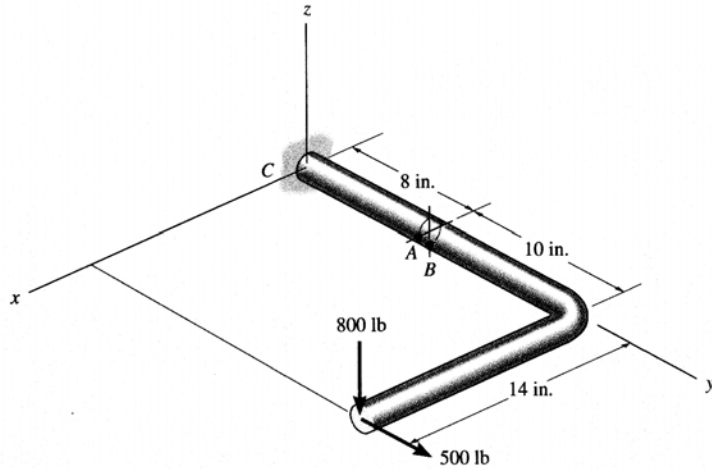

Figure 1
**Problem #4** (20 points): Two forces are applied to the end of a solid rod depicted in figure 1. These forces cause internal forces and moments on a cut section 8 in. from the wall, in the directions shown in figure 2. The rod has a circular cross-section with a radius of 0.75 in. Points A and B lie on the cut surface, at the locations shown.